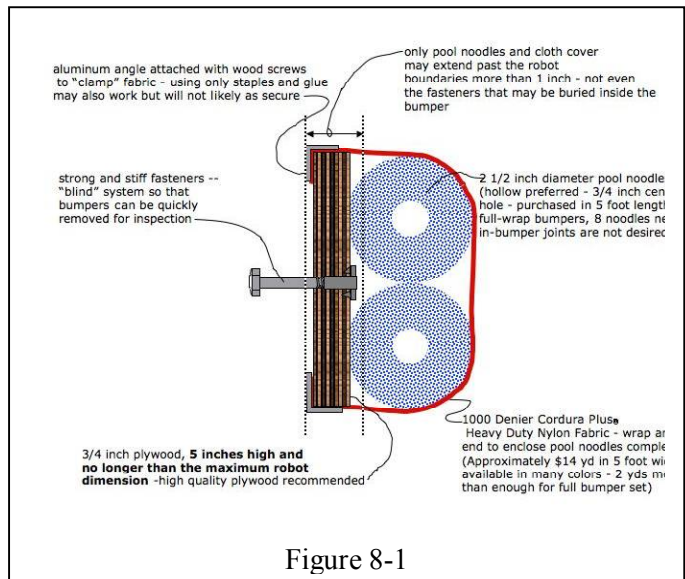

Figure 8-1
- **STANDARD BUMPERS** must be designed as shown in figures 8-1 and 8-2. This is the only acceptable design for **STANDARD BUMPERS**.